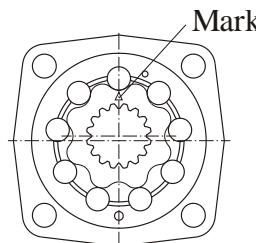

Fig.12
12. Stave the pin preliminarily into the stator. Orientate the roll-gerotor set acc.to Fig.12 and assemble the rotor splines into the cardan shaft splines. (If necessary, turn the shaft to one or another direction for keeping symmetry of rotor towards stator.)
14. Mark the rotor at the point where the tip of a spline tooth is opposite to the bottom of a tooth in the external rotor teeth as shown on Fig.12 and 13.